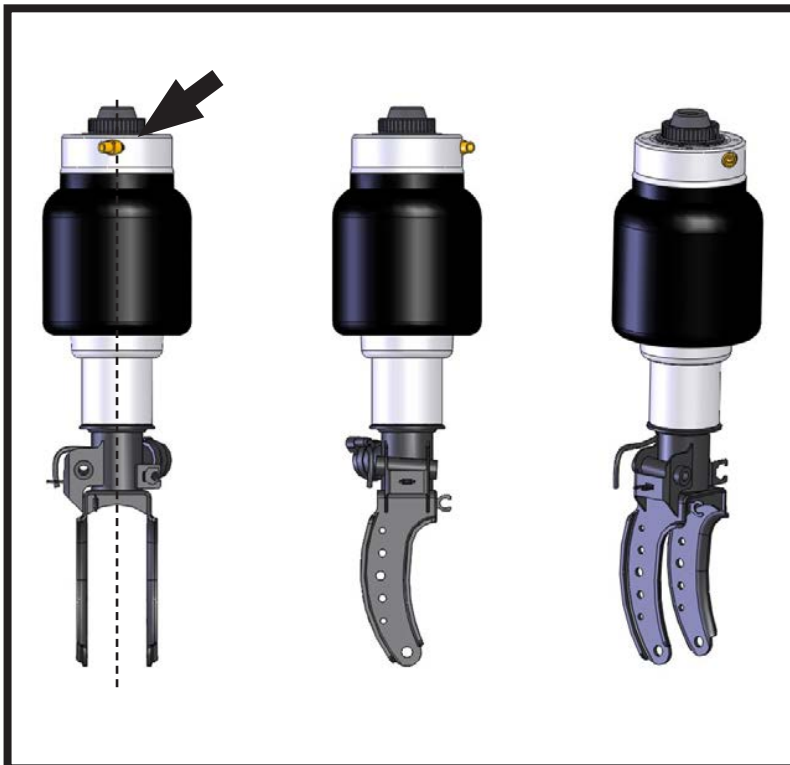

FIGURE 20-7
8. ALIGN THE AIR INLET WITH THE SHOCK FORKS (FIGURE 20-7).